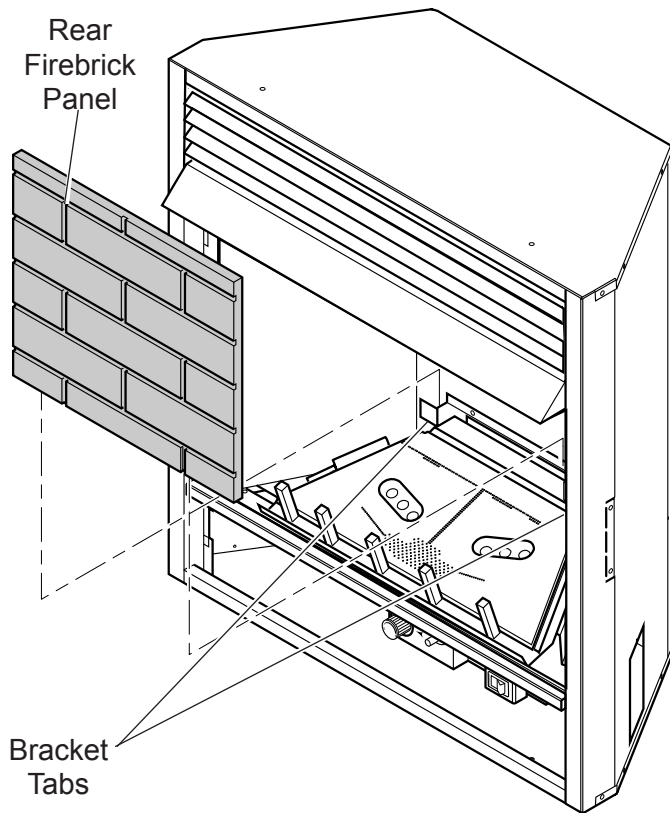

Figure 4 - Installing Back Firebrick Panel
4. Place rear firebrick panel on back wall of firebox. Set bottom of panel behind the bracket tabs of the grate. See *Figure 4*.